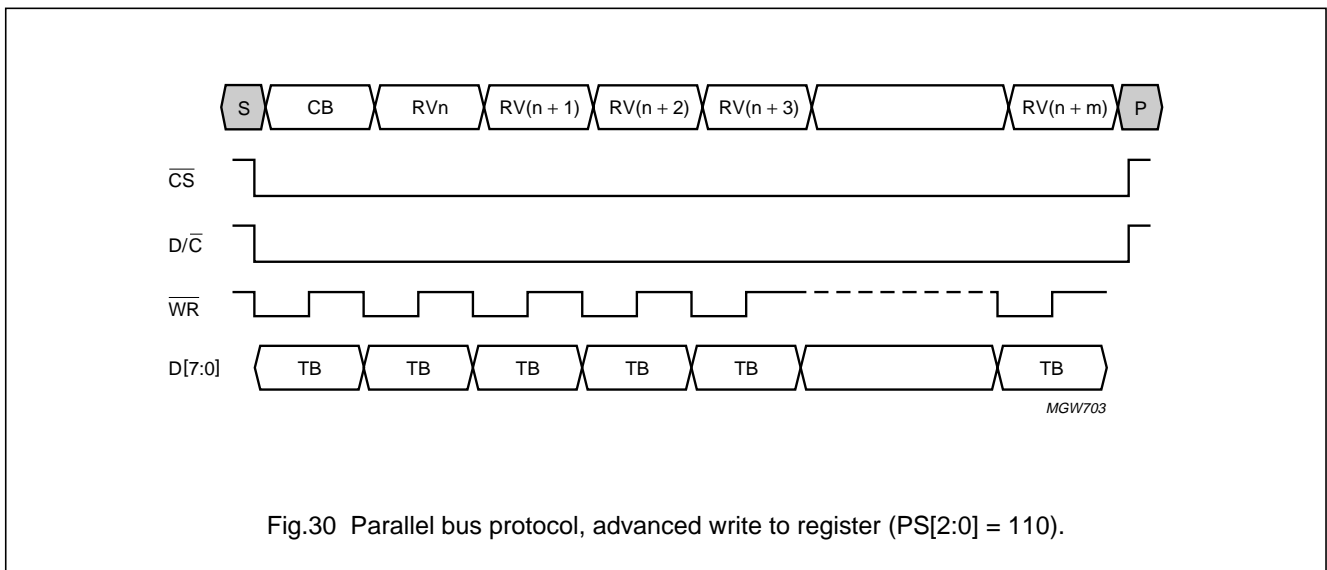

Fig.30 Parallel bus protocol, advanced write to register (PS[2:0] = 110).
The interface functions of the 8080-type parallel interface are given in Table 20. Figures 30 to 34 show the data transfer in different modes. The transmission byte (TB) shown in these figures is a register value or a control byte, depending on mode and protocol used.